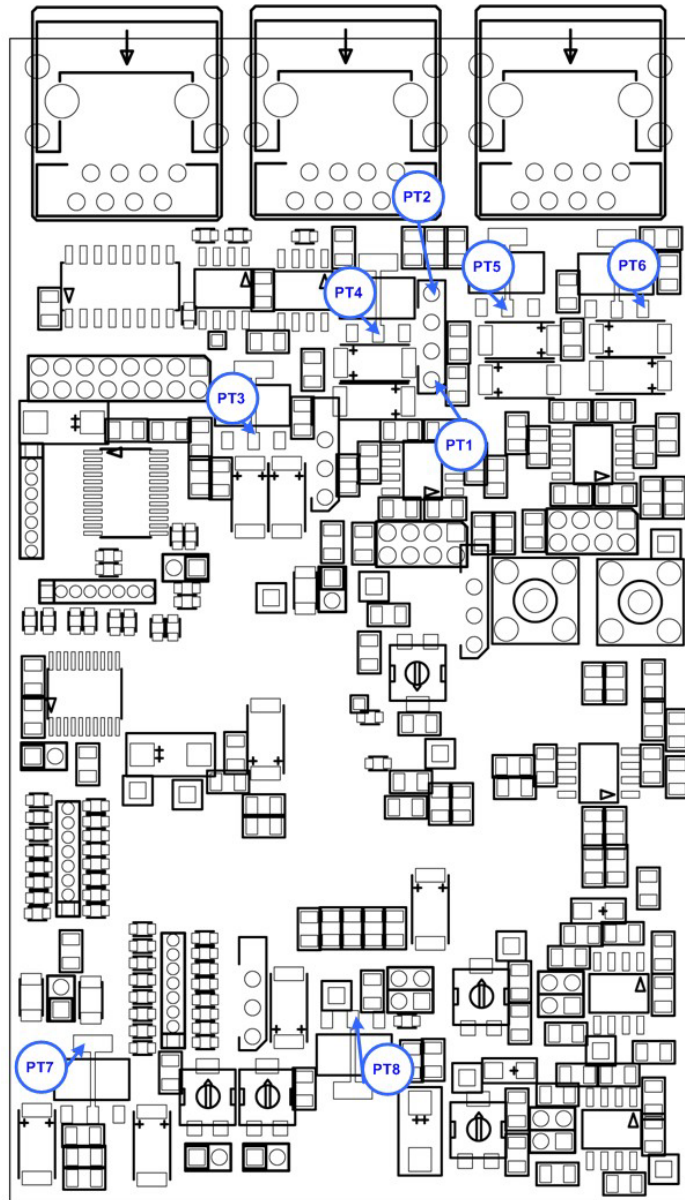

Figure 2.3: Test point to measure resistances between the power supply lines and GND.
- Measure the resistance between the power supplies and GND. The test points are shown in Fig. 2.3 and the values are listed in Table 2.1.